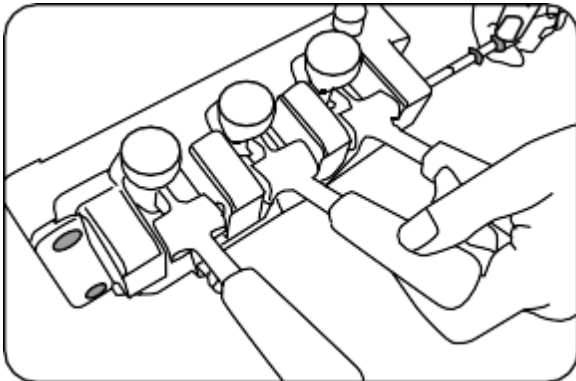

Figure 27
9. Slide Pivot Pin into place (Figure 27)